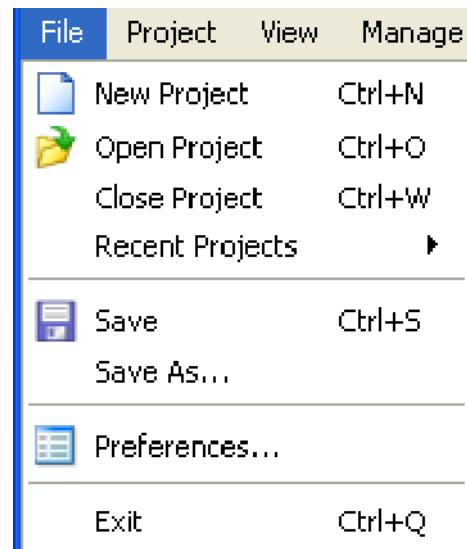

Figure 3-2: New CORE Generator Tool Project
2. Choose **File > New Project** to open the New Project dialog box. Create a new project named **7Series\_MIG\_Example\_Design** (Figure 3-2).